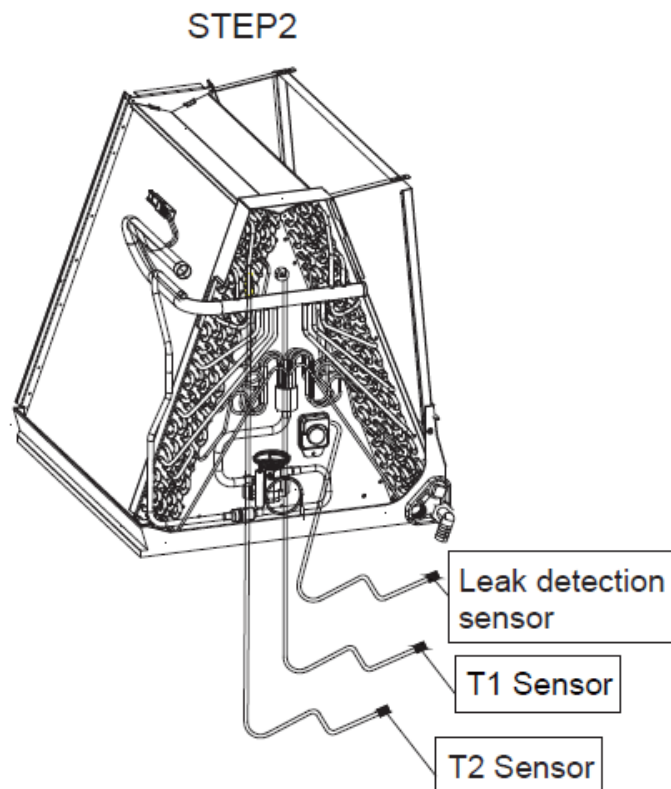

Figure 4.2
2. Pull out the coil with sensor wire (do not disconnect T1 sensor、 T2 sensor and leak detection sensor from the coil). (Figure 4.2, Step 2)